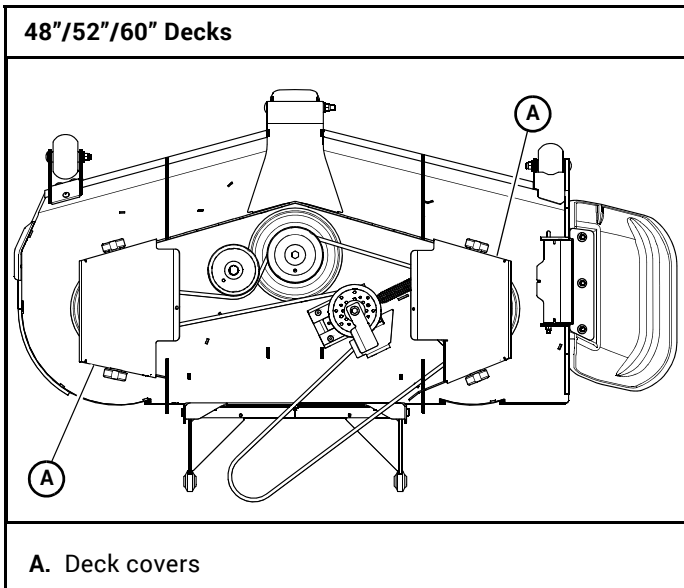

Figure 6-16
3. Remove the deck covers. Figure 6-16
10. Install the deck covers. Figure 6-16